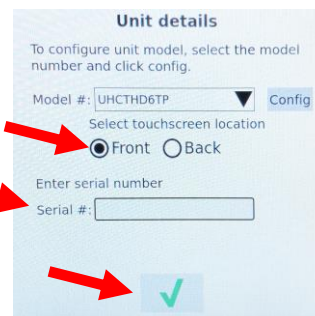

Figure 19
- j) Press the Serial # field and use the keyboard to enter the serial number of the cabinet. When finished press the return key and the GREEN checkmark (see Figure 19).